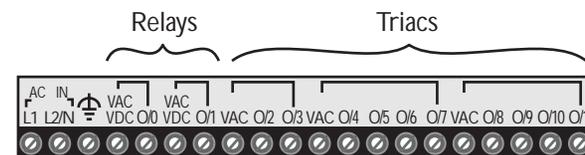

Figure 2-28. A 32 I/O triac/relay output interface.
**Triac/Relay Output Interfaces.** Only one MicroLogix model has a **triac/relay output interface**. This 32 I/O PLC has two isolated relay outputs at terminals 0 and 1 (see Figure 2-28). The remaining ten outputs are triacs. These triacs are arranged in groups of two, four, and four, with each group sharing an AC power supply connection and a common return line.